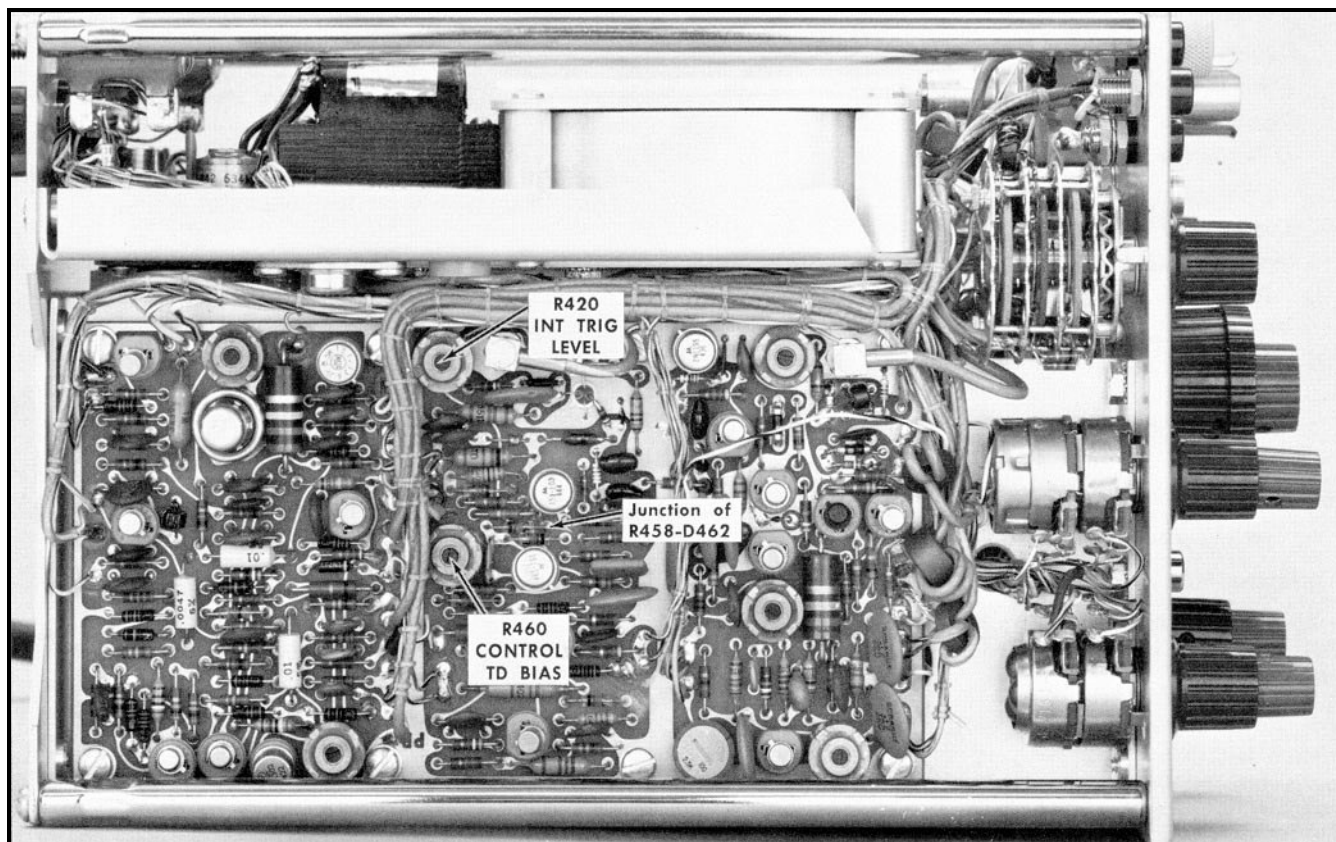

Fig. 5-10. Trigger circuit adjustments on right side of Type 1S1. (Unit is positioned upside-down on test bench.)
i. Adjust R420 (INT TRIG LEVEL) if the operation is not correct. See Fig. 5-10 for the location of R420.
- Connect the test probe to the junction of R458 and D462 (see Fig. 5-10).
i. Adjust R460 (CONTROL TD BIAS) if the display is not as indicated. See Fig. 5-10 for the location of R460.